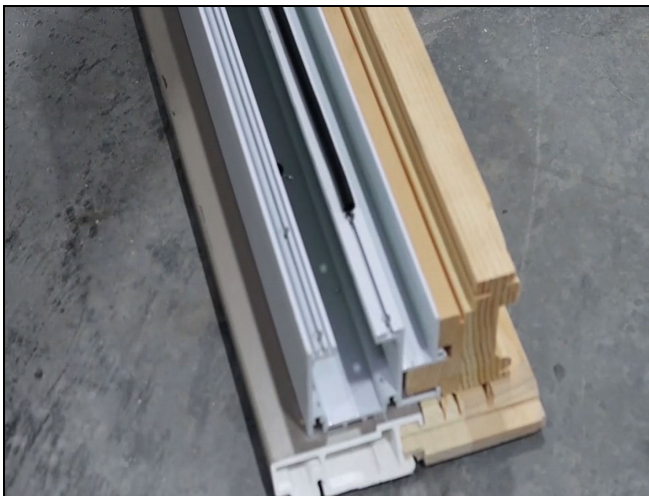
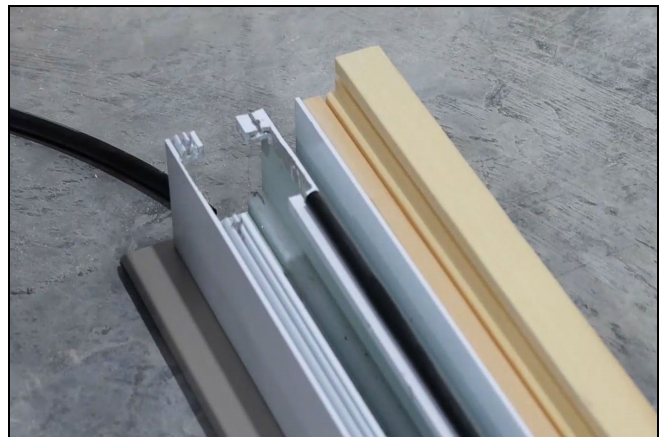

Figure 81
Figure 82
8. Insert the T-Slot weather strip into the aluminum track on the access hole side and slide it down to the other end of the track. It should terminate at the first screw hole at the opposite end of the track or the end of the track if there are no holes. Cut to fit. See Figure 81 and Figure 82.